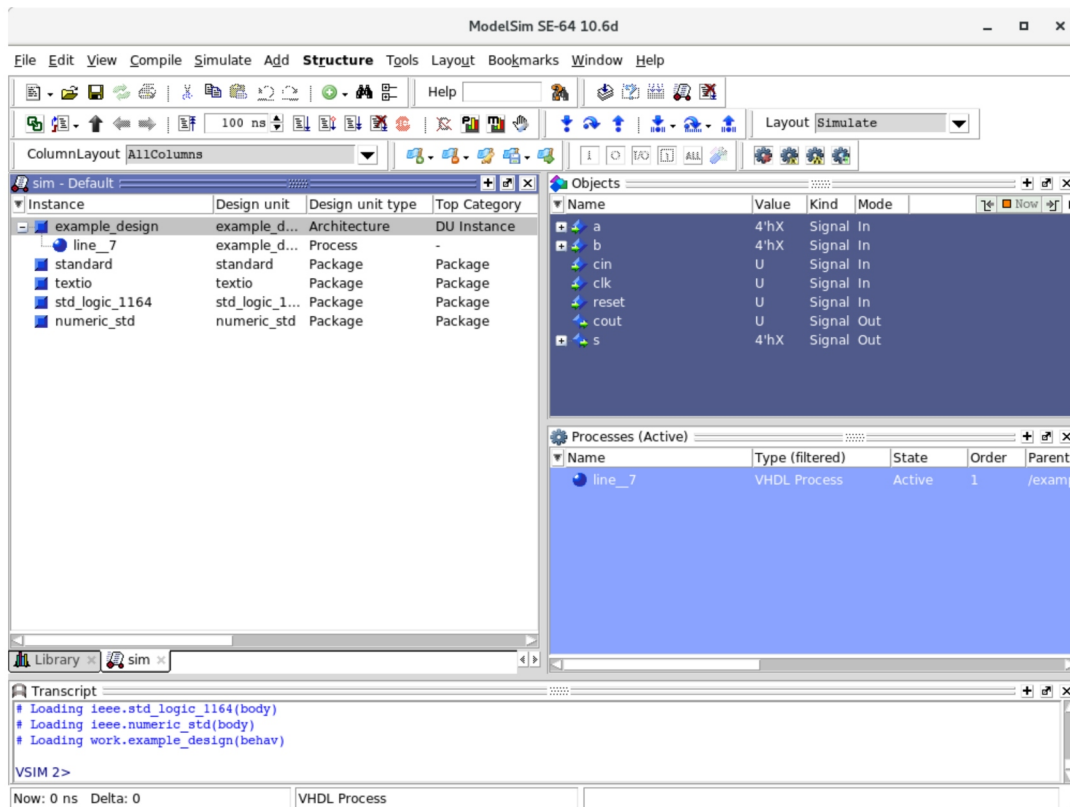

Figure 7 Modelsim simulation window
14. The window now change to look like Figure 7, “Modelsim simulation window”.